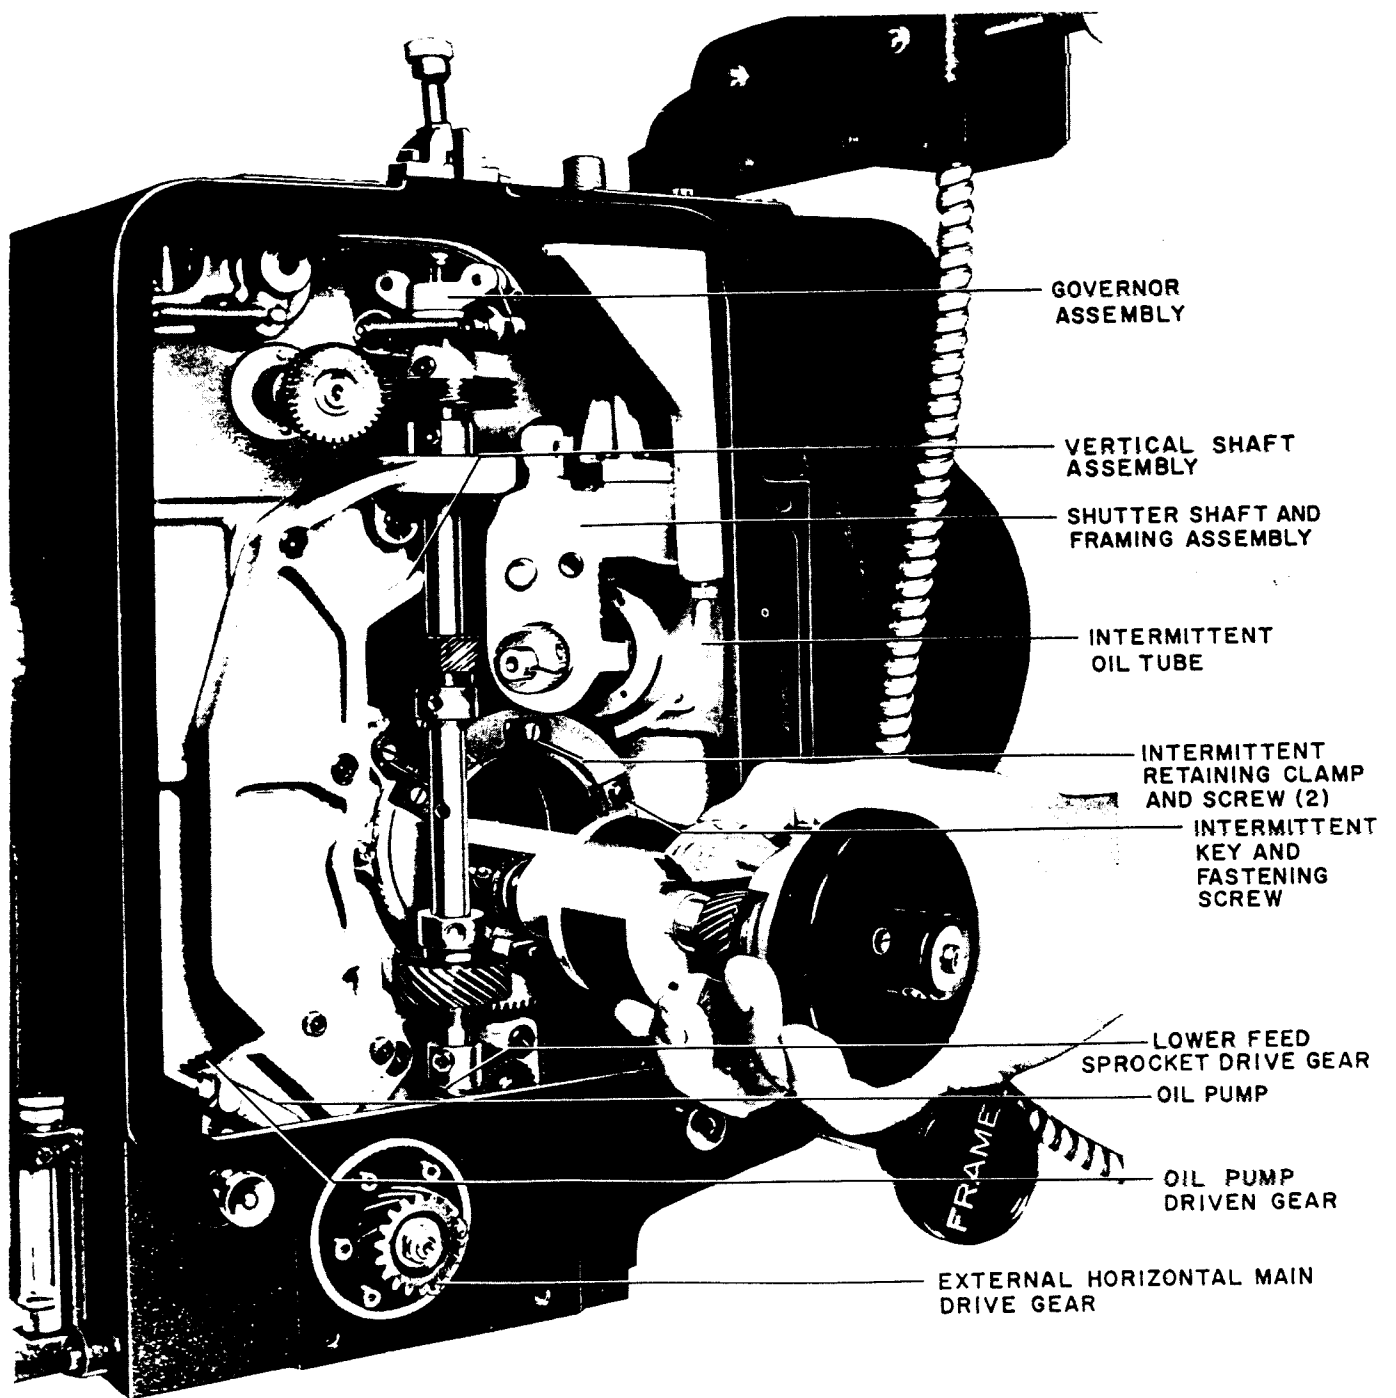

Figure 2-2
2. There should be an oil splash on the gear compartment cover and a steady, light flow of oil, (just more than a drip) from the oil tube just above the intermittent gear. (See figure 2-2.)
4. Thread a suitable film in the projector as follows: (See figure 2-2.)
2. Shutter Adjustment (See figure 2-2.)